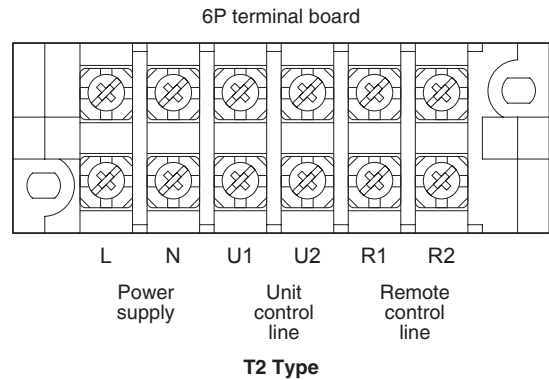

Fig. 4-2
- (1) Refer to Section 4-2. "Recommended Wire Length and Wire Diameter for Power Supply System" for the explanation of "B", "C", "D" and "E" in the above diagram.
- (2) The basic connection diagram of the indoor unit shows the terminal boards, so the terminal boards in your equipment may differ from the diagram. (Fig. 4-2)
- (3) Refrigerant Circuit (R.C.) address should be set before turning the power on.
- (4) Auto address setting can be executed by remote controller automatically. Refer to the Installation Instructions supplied with the remote controller (optional).